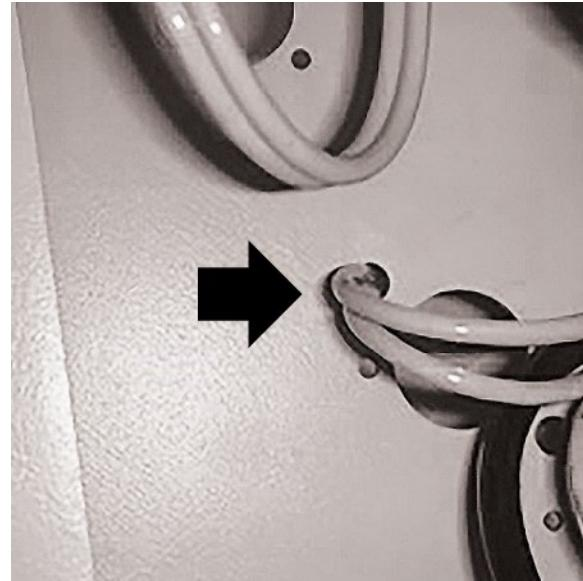

Fig. 9
- 13 Use the supplied 2-hole beige or white tubing from the autoholder, and run the tubing through the hole in the baseplate. (Fig. 9)